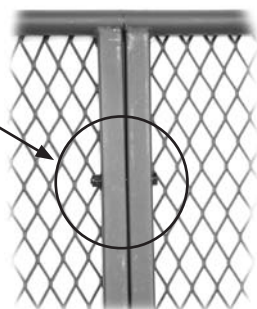
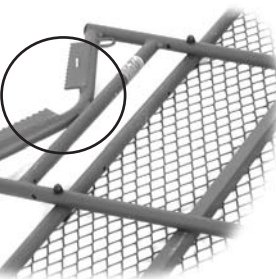

FIGURE 4
FIGURE 5
STEP 2: (Continued) onto the standing platform (A.) as shown in Figure 4. Please note when the treestand is installed onto the tree, the teeth of the v-bar should be oriented as shown in Figure 5. Remember that Figure 5 depicts the standing platforms expanded metal surface laying on the ground. Install the v-bar assembly (B.) using two (2) 5/16" x 1 3/4" bolts, four (4) steel washers and two (2) locking nuts. NOTE: Snug the nuts, but do not tighten them fully at this point.